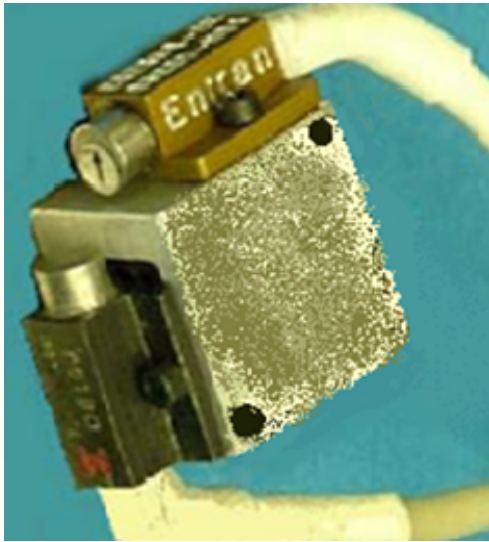

Figure 20 - Thoracic Spine Accelerometer Mount
2. Mount two uniaxial piezoresistive accelerometers onto the triaxial mount block with two each #0-80 X 1/8" SHCS so that their seismic masses all point to one corner of the block as shown in Figure 20. The step is identical for T8 and L1 accelerometer locations.